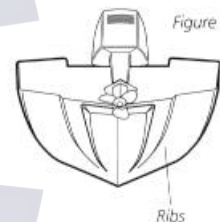

Figure 14
- Observe the outside of the boat hull to find the areas that are mostly free from turbulent water. Avoid ribs, strakes, and other protrusions as these create turbulence (Figure 14).